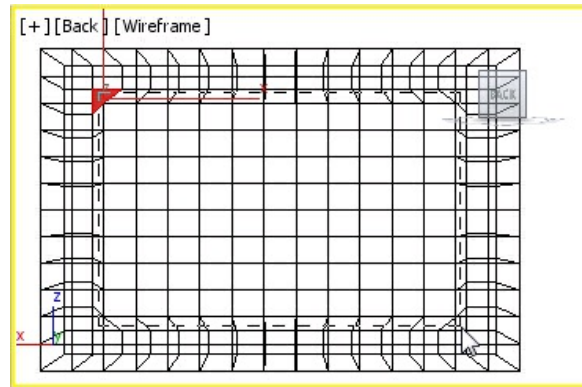

Figure 8-134 *Selecting the inner polygons in back portion*
15. In the **Selection** rollout, select the **Ignore Backfacing** check box. Next, choose the **Select Object** tool and select the inner polygons by using the rectangular cross selection, as shown in Figure 8-134.